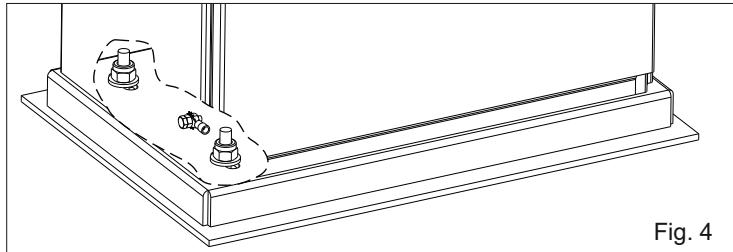

Fig. 4
**4.1.** Fix the motor-reducer to the foundation plate adjusting the side position (Fig. 4) considering the mentioned measurements in Fig. 2.